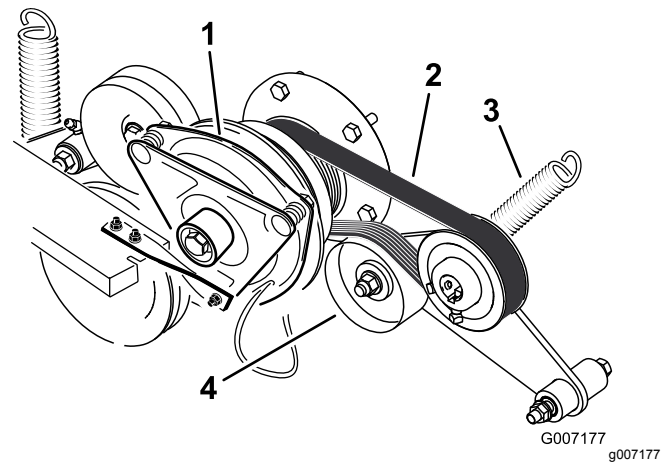

Figure 77
3. Remove the spring from the idler arm (Figure 77).
4. Install the new belt around the engine and hydraulic pump pulley (Figure 77).
6. Install the spring to the idler arm (Figure 77).